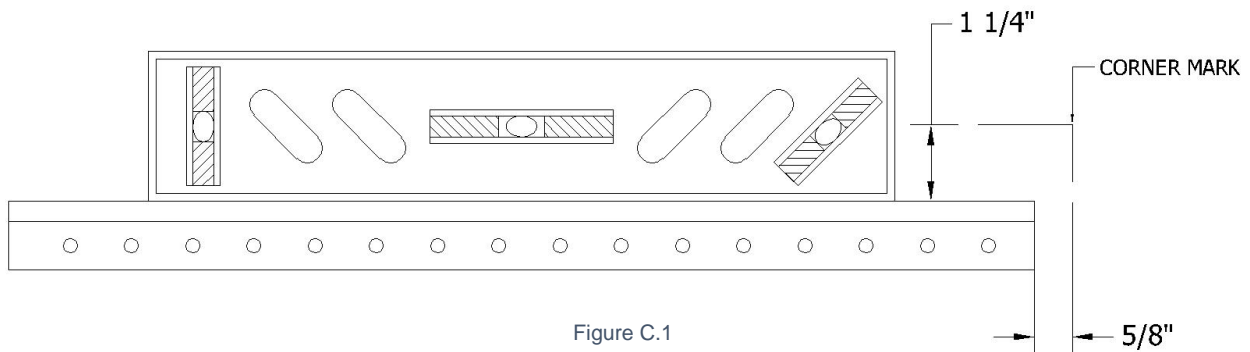

Figure C.1
- Determine where the lowest box(es) will go. Using a box as a guide, mark the location of one of the upper corners along the wall. From this mark, measure down 1-1/4" and inward by 5/8" and mark. (See Fig. C.1)